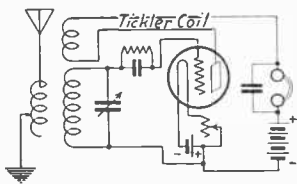

FIG. 38.—Detector circuit.
*Ans.* See Figs. 38, 39, and 40.